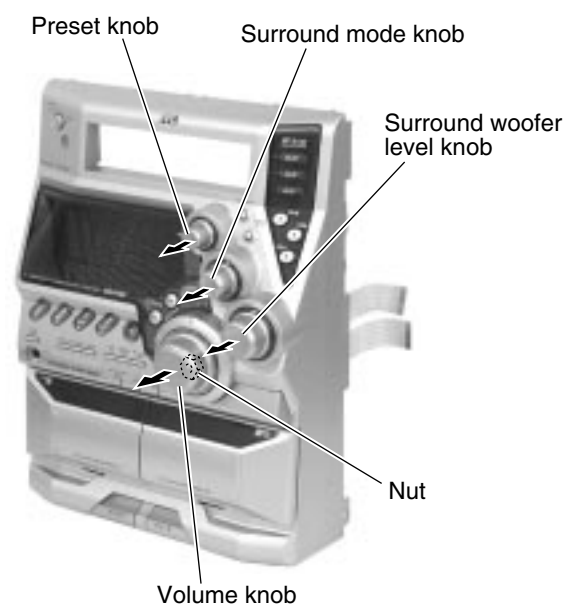

Fig.30
■ Removing the operation switch board (See Fig.30 and 31)